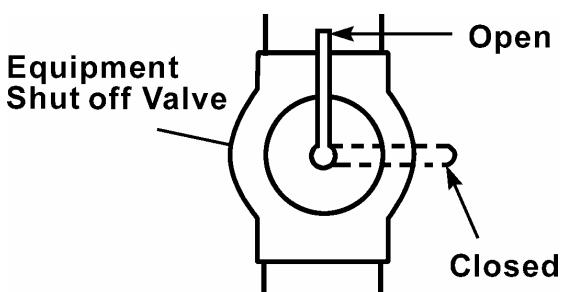

Figure 16 – Equipment Shut-off Valve
1. Close equipment shutoff valve (see Figure 16).
1. Open equipment shutoff valve (see Figure 16).